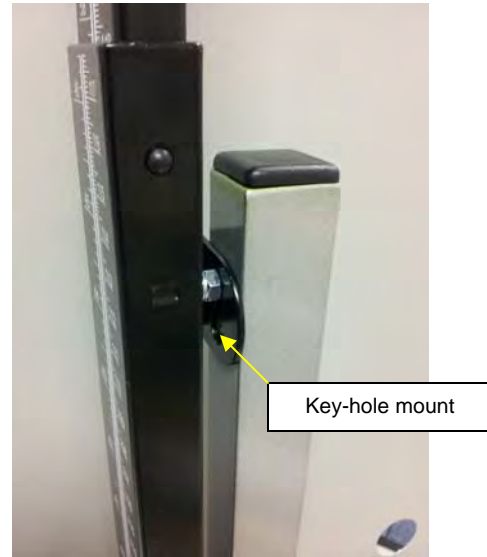

Figure 2
11. Position the height rod's key-hole mounts over the round headed screws located on the mounting rod (see Figure 2).